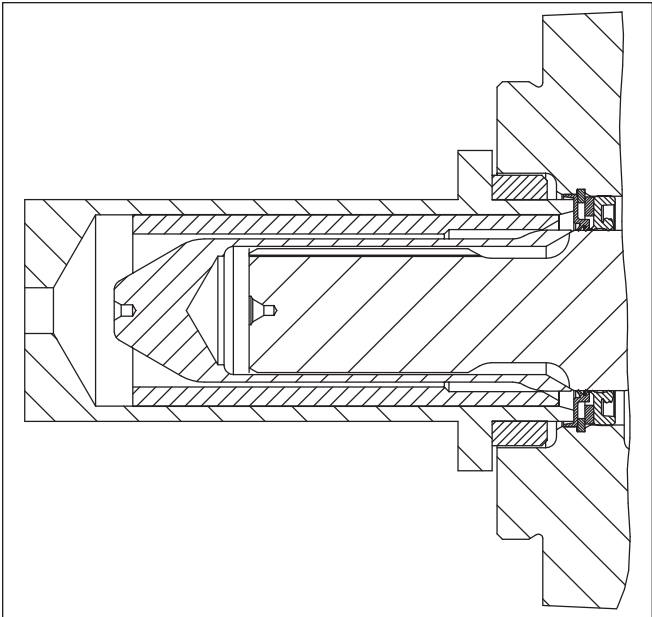

Figure 10. Dust seal installation
- g. Place the shaft seal installation tool (Figures 10 and 13) over the shaft and into the seal pocket. Using a rubber mallet, gently tap the tool until the dust seal stops off on the retaining ring. Care should be taken not to pound too hard and damage the retaining ring.